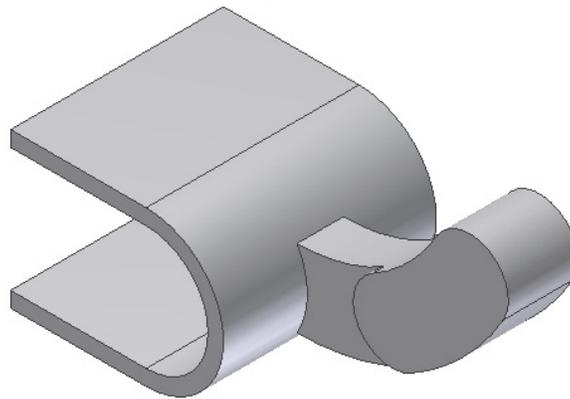

Figure 7-51 Model after creating the second join feature
- c. Again, define a new sketch plane on the XZ plane and draw the sketch for the second join feature. Extrude this feature using the **Symmetric** option, refer to Figure 7-51.
- Exit the sketching environment and then extrude the sketch to a distance of 18 mm using the **Join** operation and the **Symmetric** option, see Figure 7-51.